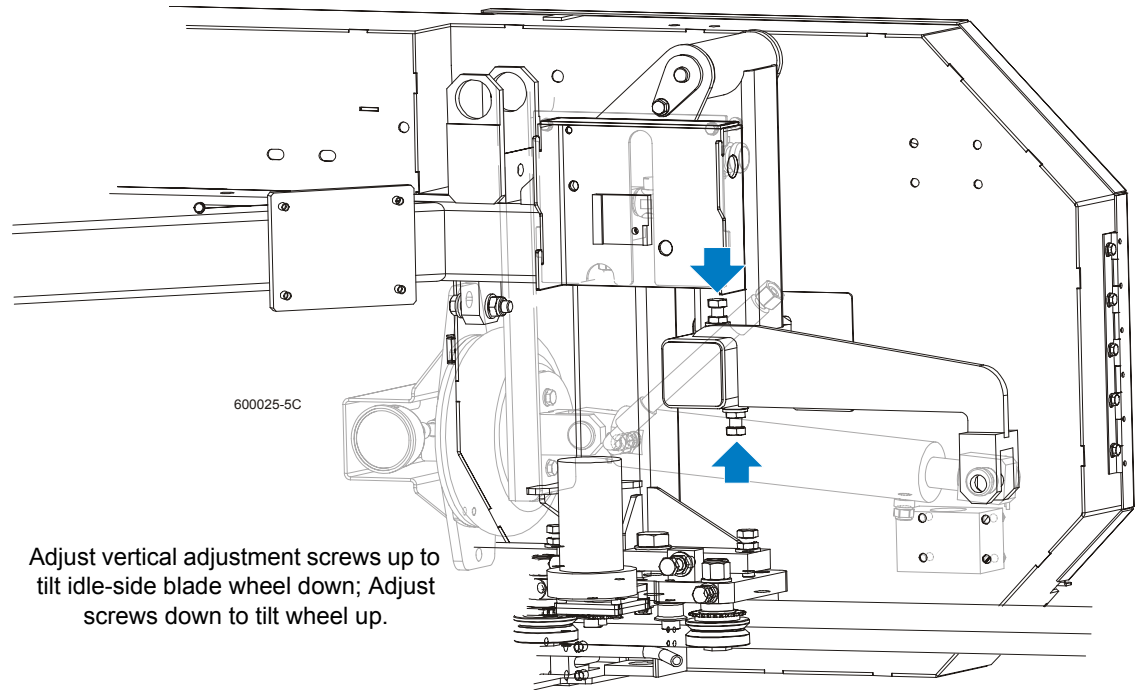

**FIG. 5-16**
**See Figure 5-16.** Use the vertical adjustment screws to adjust the drive-side blade wheel. To tilt the wheel down, loosen the top adjustment screw one quarter turn. Loosen the jam nut on the bottom adjustment screw and tighten the screw. Tighten the top and bottom jam nuts.